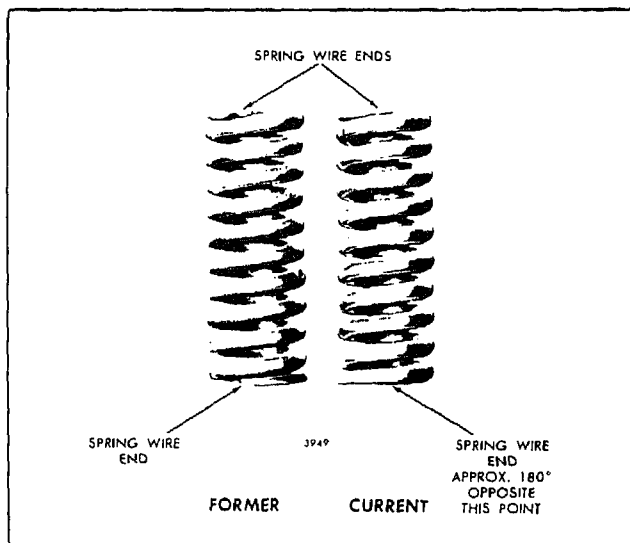

Fig. 11 - Push Rod Spring Identification
2. Place the push rod springs (Fig. 11) on the push rods.
4. Place the push rod springs (Fig. 11) on the push rods.